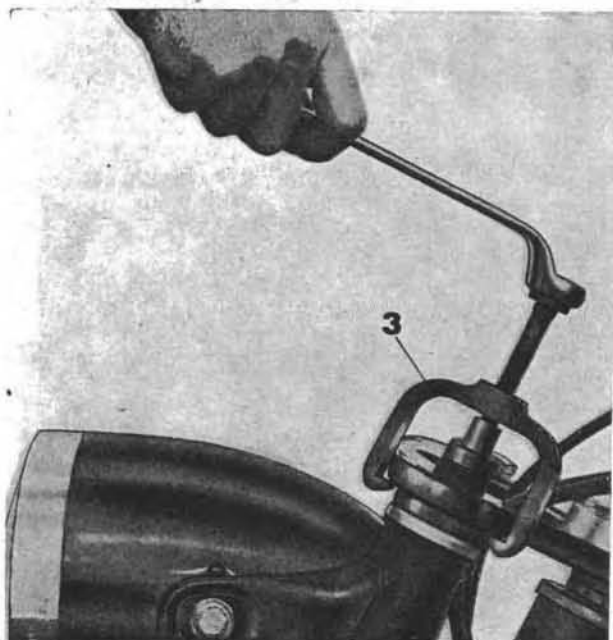

Fig. 100
- remove top linking plate, by means of ring wrench and tool No. 60910500 (see 3 on Fig. 100).